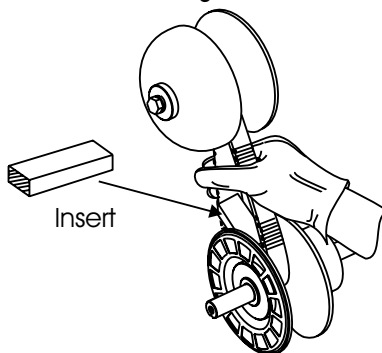

Figure 19. Holding Lower Pulley Open
2. A wooden block inserted between the moveable face and the fixed face of the lower drive pulley may help keep the lower drive pulley faces open while installing the new drive belt. See Figure 19.